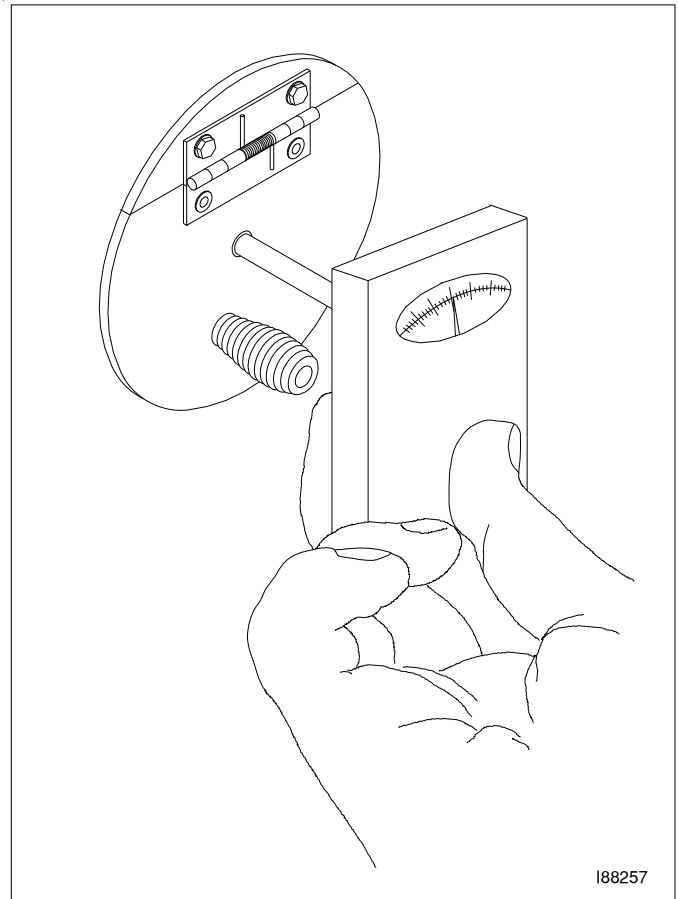

Figure 8A - Checking for Proper Draft Overfire
1. Insert the probe of the draft gauge instrument into the draft reading port in the observation port as shown in Figure 8A.